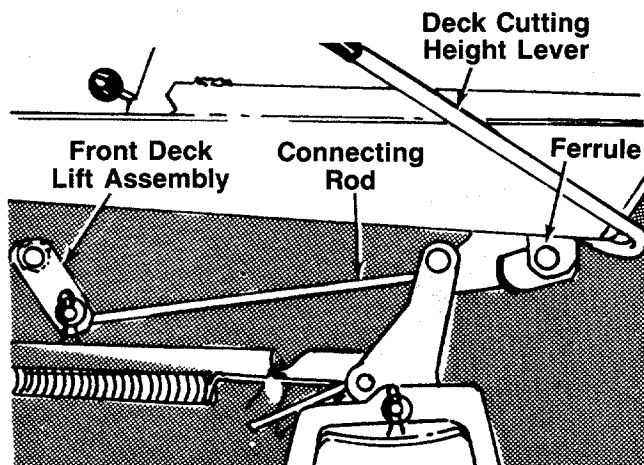

FIGURE 29.
2. Remove the hairpin cotter and flat washer which hold the deck lift connecting rod to the front deck lift assembly. See figure 29.
3. Remove the connecting rod from the deck lift assembly and thread it in or out of the ferrule as necessary. See figure 29. Replace the rod.